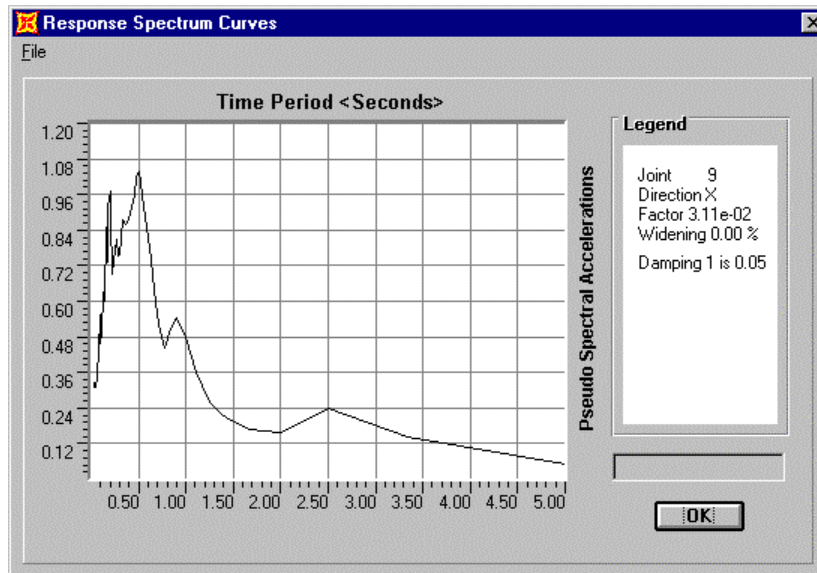

Figure 3-4 Response Spectrum from Time History
4. You will see a plot of a response spectrum for the El Centro earthquake at 5% damping. See Figure 3-4.